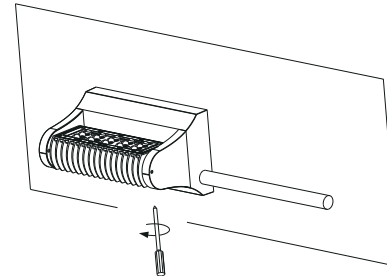

Figure 2-5
5. Tighten the pipe on the luminaire; adjust viewing angle and tighten screws. (Figure 2-5)